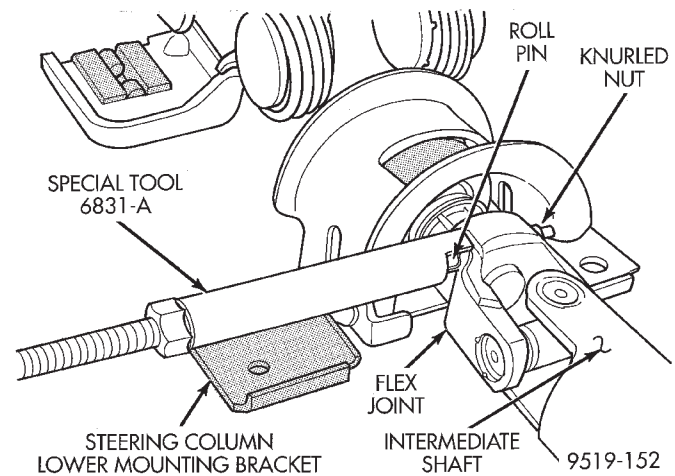

Fig. 20 Removing Roll Pin From Flex Joint
(1) Remove steering column assembly from vehicle. Refer to STEERING COLUMN in this section for the required removal procedure.
(2) Install Remover/Installer, Special Tool 6831-A, through center of roll pin in intermediate shaft's flex joint and install knurled nut (Fig. 20).